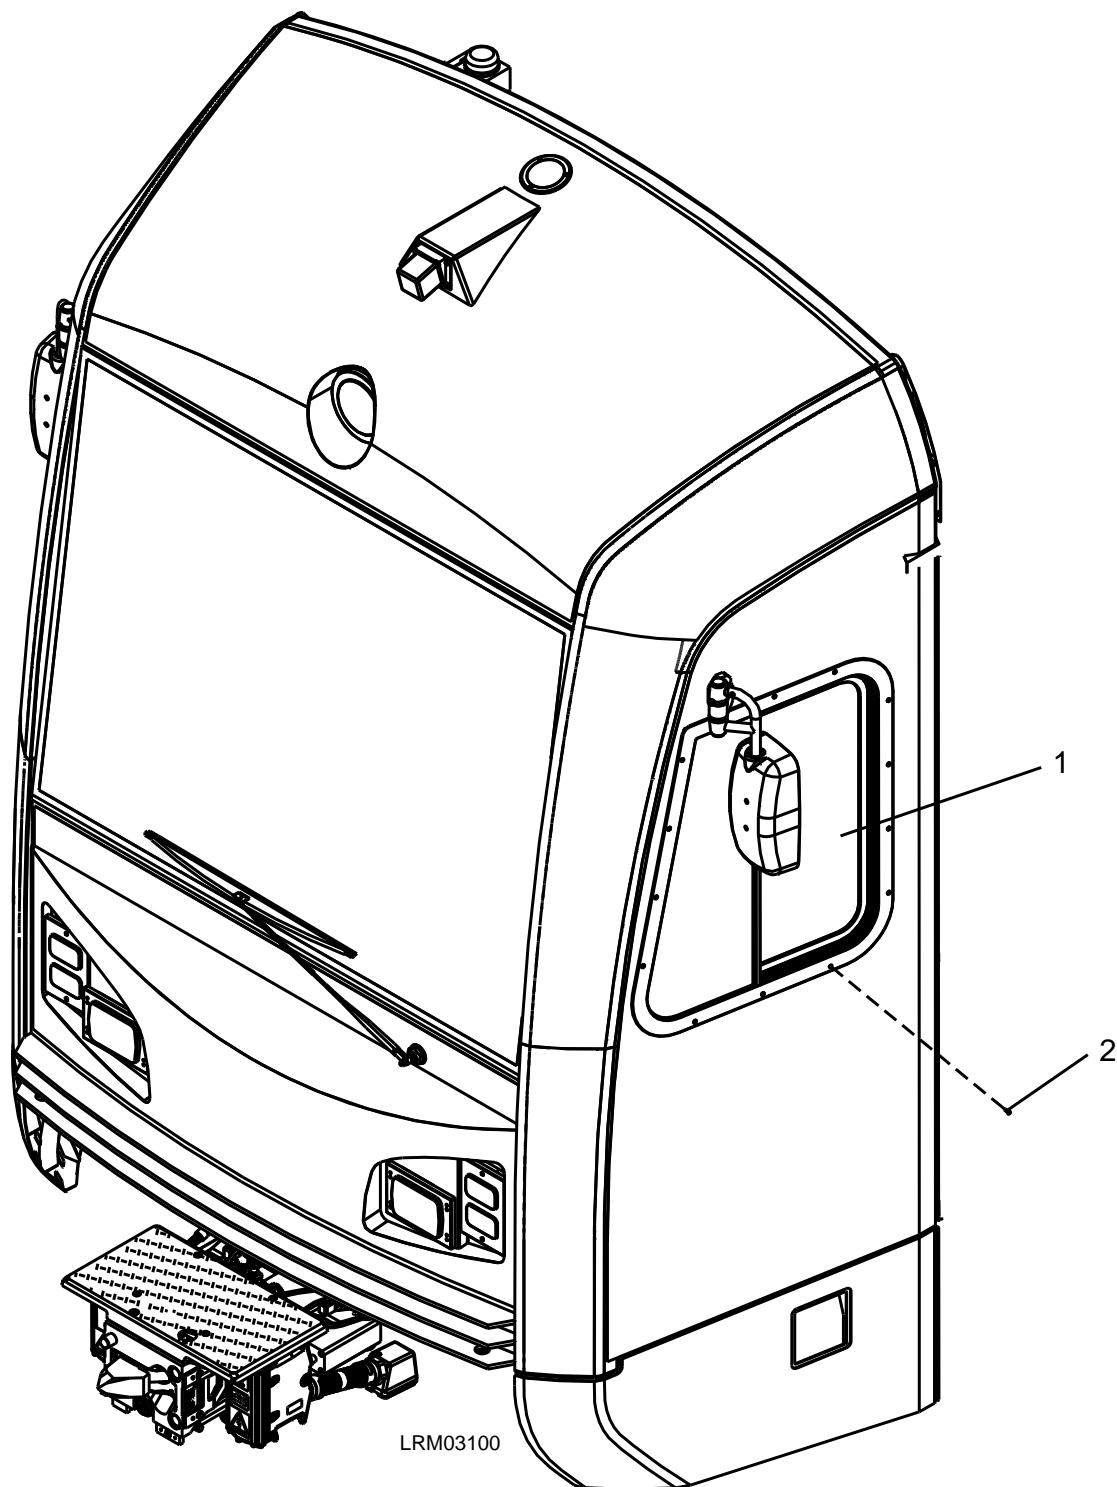

Figure 7-76: Framed Windows
1. Ensure that the Framed Window (1) will not move when disengaged from the car body. See Figure 7-76.
2. Remove the screws (2) that hold the Framed Window (1) in place.
3. Carefully remove the Framed Window (1).